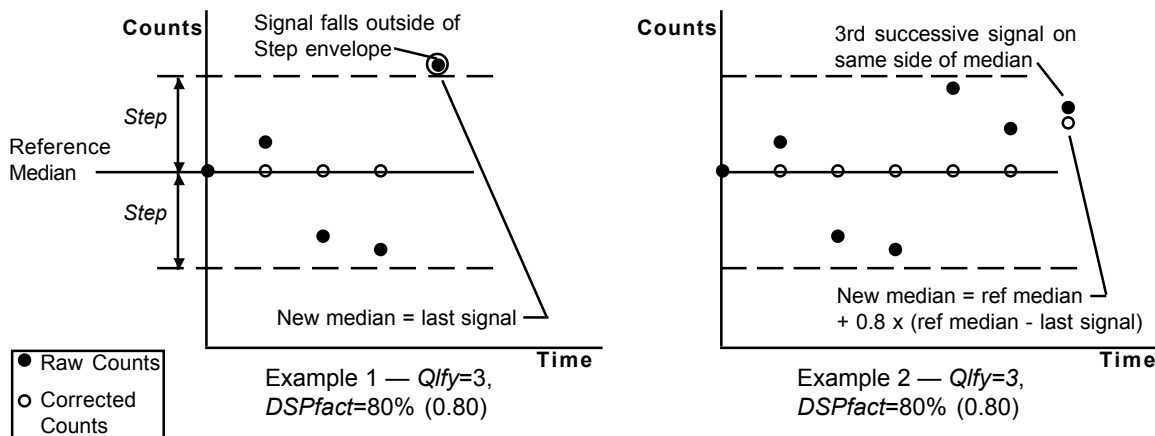

Figure 8-2. Filter Function Examples
The A/D converter digitizes the signal coming from a sensor. The STX picks the first signal as a reference median; this value is used in calculating the displayed weight. As shown in Figure 8-2, the STX then compares following signals to the reference median, and recalculates the reference median when either of the following happen:
*Step* is a window of equal counts above and below the reference median. As shown in Figure 8-2, example 1, if a large signal change is detected that falls outside the window, the STX immediately moves the location of the reference median to that point. This allows the STX to adjust quickly to rapid material movement. The default is 15,000 counts.
*Qlfy* is the triggering number of successive signals above or below the median signal value, but within the *Step* window. In example 2 in Figure 8-2, *Qlfy* is 3. When the third successive signal above the median (but within the *Step* window) is detected, the STX moves the location of the median value to that point (or a percentage of the distance from the old median as determined by *DSPfact*). This allows the STX to respond to definite trends in weight changes. The default is 3.
*DSPfact* determines the magnitude of change from the old to the new reference median, for change triggered by *Qlfy*. In Figure 8-2 example 2, the STX moves the reference median 80% of the distance from the old median to the last signal (which triggered the change), based on a *DSPfact* of 80%. A value of 100% sets the new median to the last signal value; a value of 50% sets the new median halfway between the old median and the last signal value. Note that *DSPfact* does not affect the change caused by a signal falling outside the *Step* window, as shown in example 1 in Figure 8-2. The default is 80%.